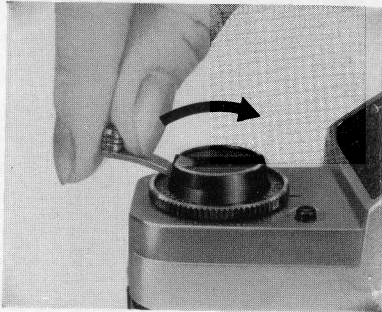

Fig. 21
- (1) Unfold crank on rewind knob (Fig. 21).